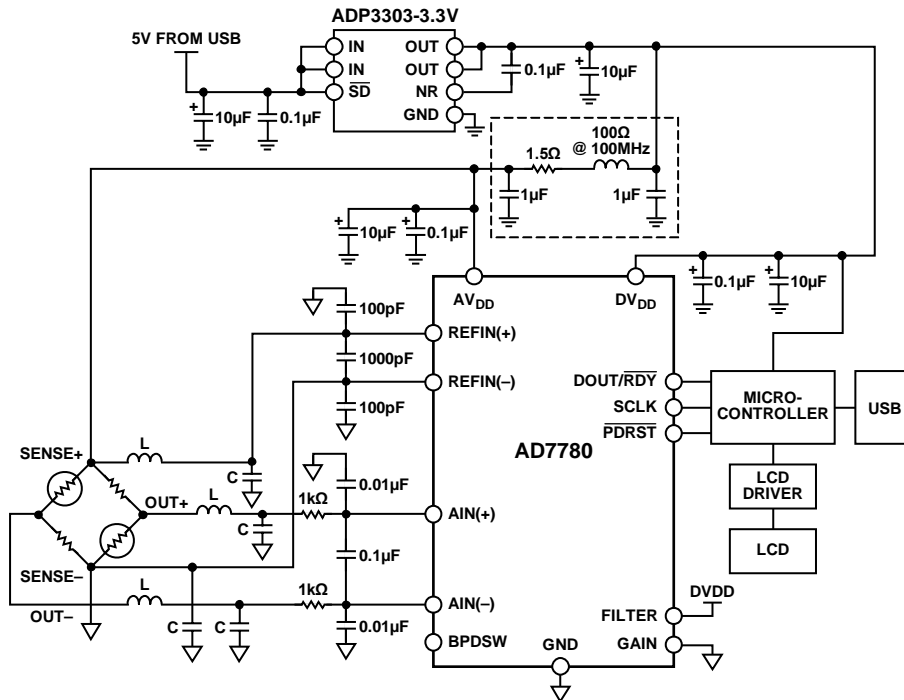

Figure 1. AD7780 Setup for Testing
Figure 1 is a block diagram of the circuit used for the radiated immunity testing. The AD7780 is configured as follows:
- Filtering is recommended on the analog and reference inputs. Figure 1 shows the R and C values that are normally recommended on the analog and reference inputs. This filtering provides attenuation at the AD7780's sampling frequency (64 kHz) and multiples of the sampling frequency. The AD7780 itself does not provide any attenuation at these frequencies. The capacitors need to be as close as possible to the AD7780's analog inputs and reference inputs so that the track length from the component to the ADC is minimized. Using components that are physically smaller allows the user to place the components closer to the pins. The layout should ensure that track lengths from the pins to the components are well matched.
- In addition to these filters, adding additional filtering in the R and L locations shown in Figure 1 improved the immunity further. This filtering is located at the connector to the load cell. Various combinations for the L (L2, L3, L4 and L5) and C (C38, C39, and C40) values were evaluated to achieve the best results. The Bill of Materials section lists the final components selected.